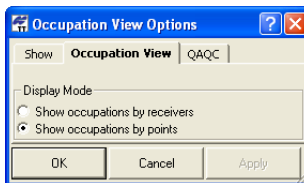

Figure 4-52. Occupation View Options
3. On the *Occupation View* tab, select the desired view options (Figure 4-52 on page 4-46). Click **Apply** to save the settings.